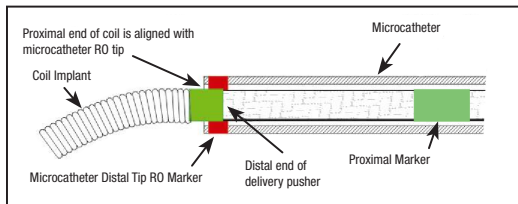

Figure 4 – Position of Marker Bands for Detachment
30. Advance the coil into the desired site until the radiopaque marker on the delivery pusher is aligned or slightly distal of microcatheter distal tip RO marker, positioning the detachment zone just outside the microcatheter tip. See Figure 4.